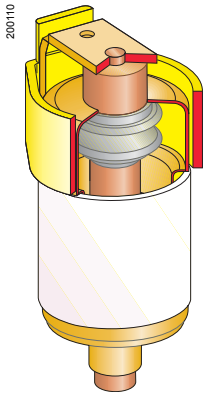

Fig. 4: 17.5 kV external coil type interrupter
- either by a coil outside of the interrupter (fig. 4), for rated voltages up to 17.5 kV